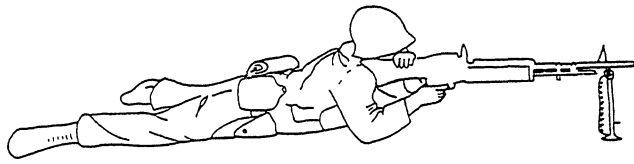

Figure 13-28.—Prone position with bipod-mounted machine gun.
**BIPOD-MOUNTED GUN.**— When firing the M60 from the bipod (fig. 13-28), you must assume a prone position at the rear of the gun. Your right shoulder should be placed firmly against the butt stock group and under the raised shoulder rest. An imaginary straight line, extending through the barrel and receiver, should pass through your right shoulder and hip (fig. 13-29). Your legs should be spread comfortably apart, with your heels down (when possible). Grasp the handgrip with your right hand and place your index finger on the trigger. Place your left hand palm-down over the rear of the feed cover and apply downward pressure. Rest your cheek against your hand and the feed cover. While aiming and firing, exert firm pressure to the rear with both hands.